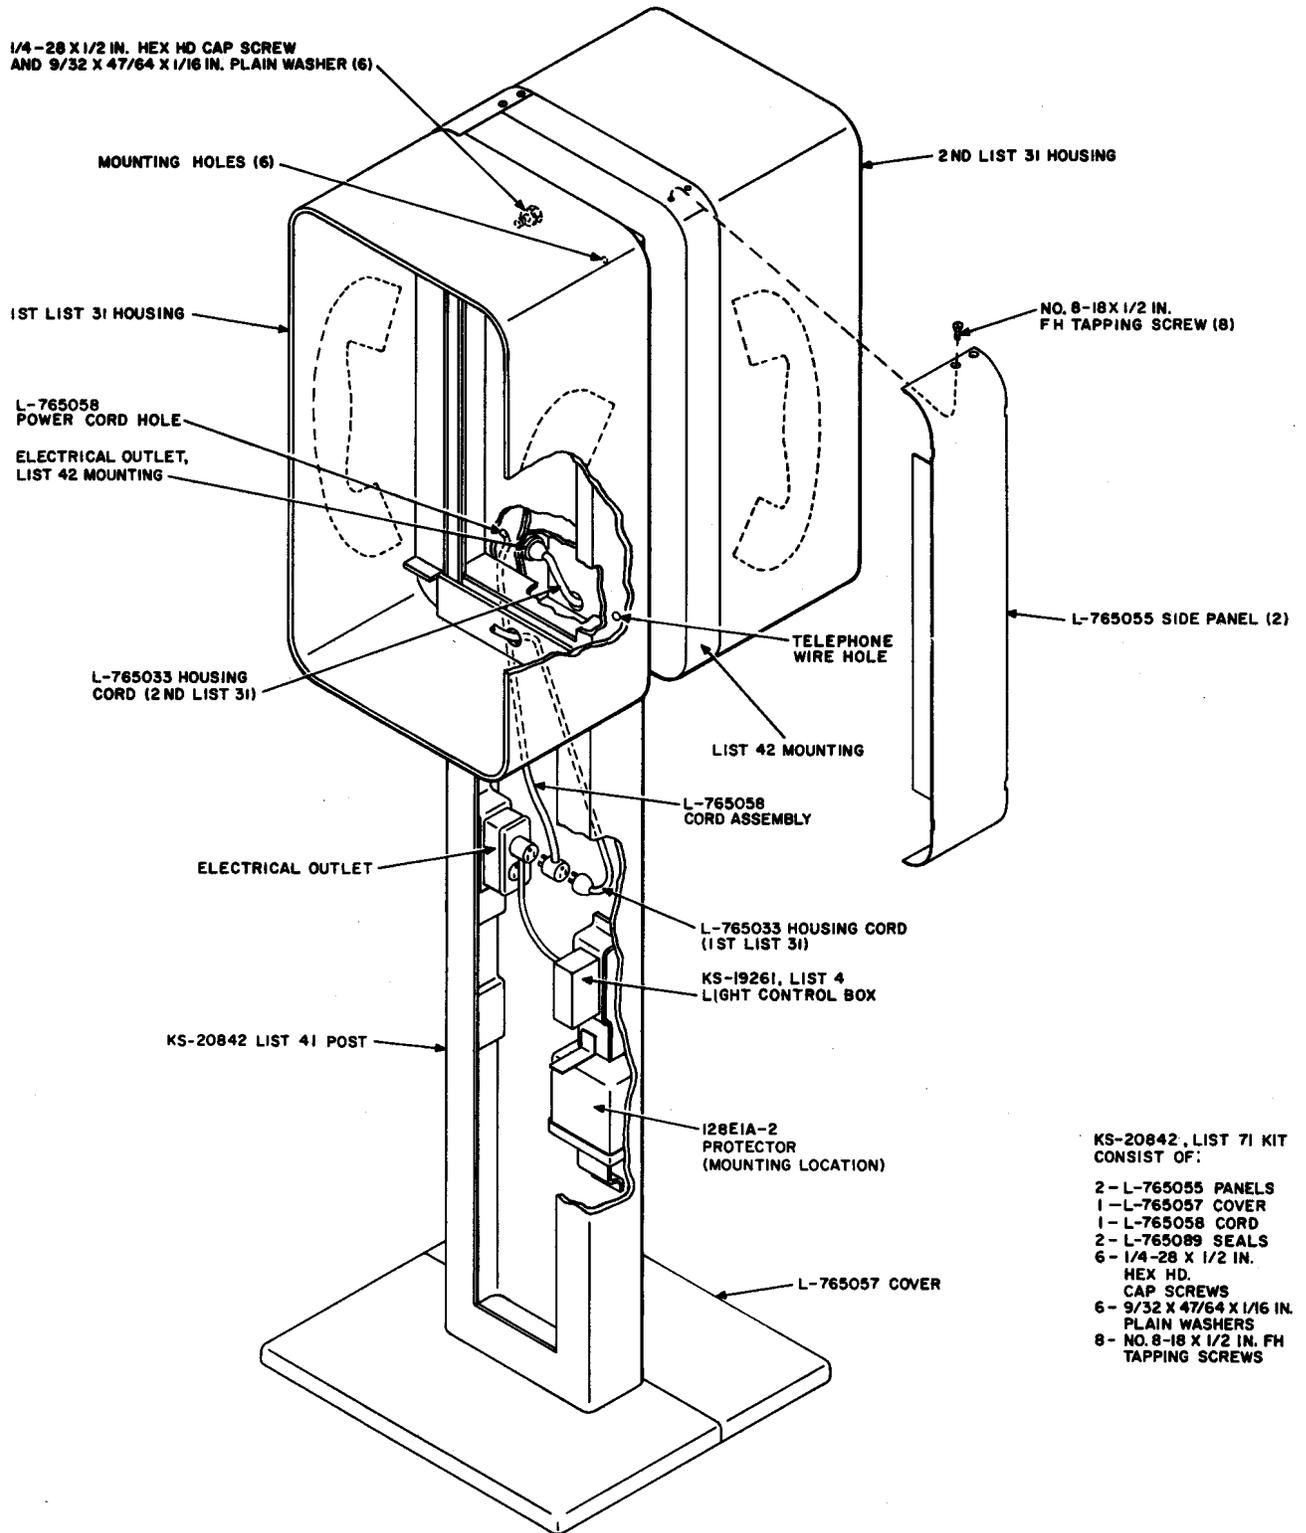

Fig. 29—KS-19261, List 4 Light Control Unit (Early Model) Installed With Two KS-20842, List 31 Housings
3.15 To install back-to-back housings (Fig. 29), use the KS-19261, List 4 light control unit in conjunction with an L-765058 cord assembly. The cord assembly is furnished as part of the KS-20842, Lists 71, 95, 171, and 195 multiplying kits.